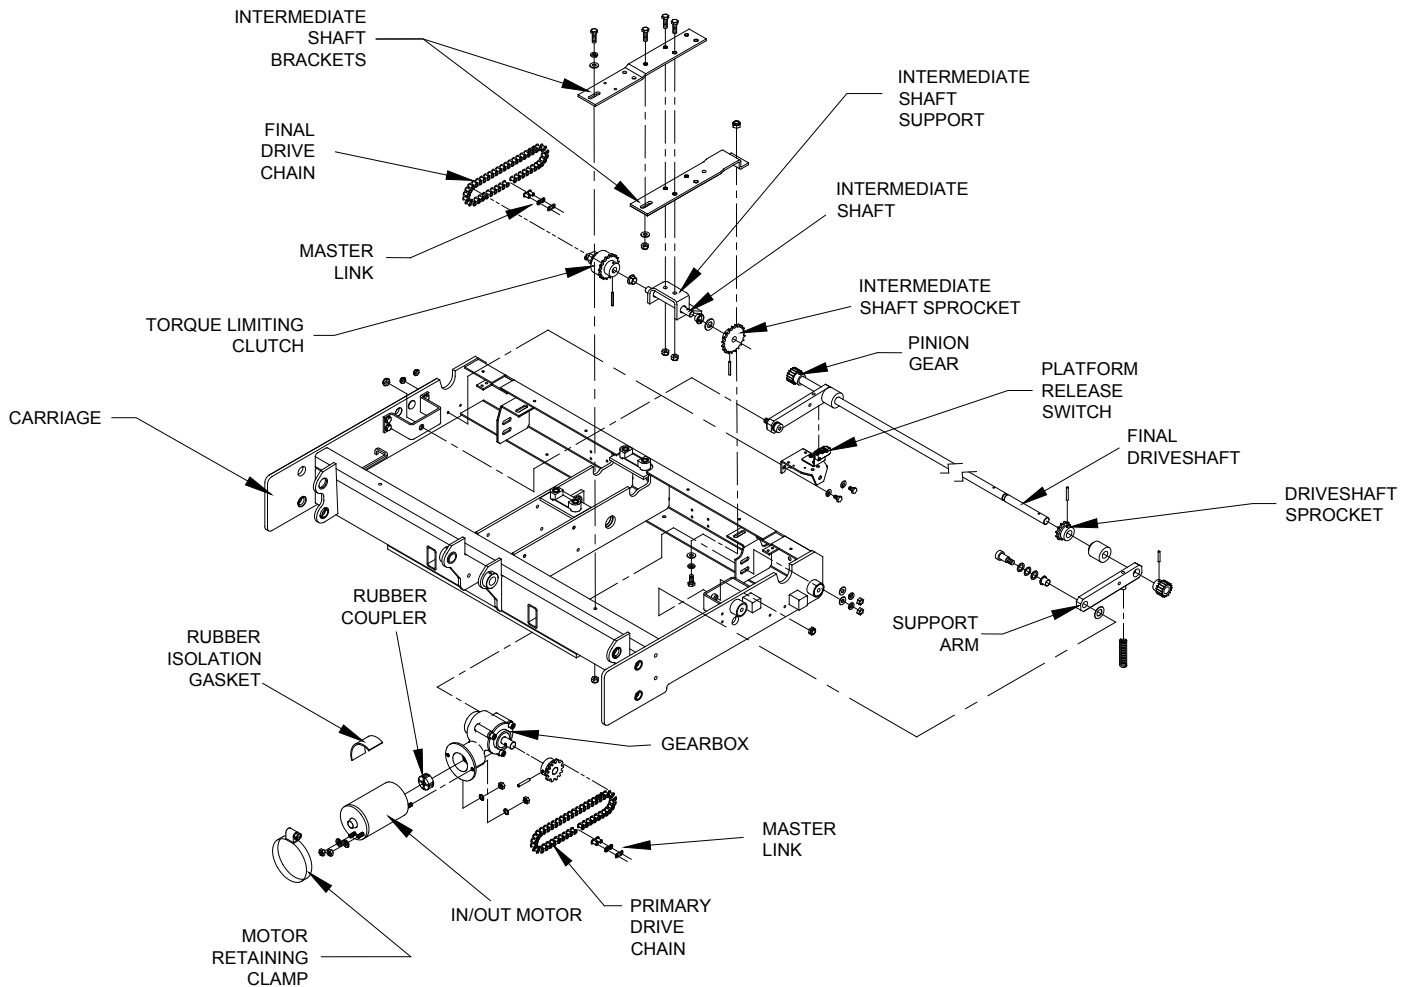

FIGURE 4-37: DEPLOYMENT SYSTEM COMPONENTS
Refer to **Figure 4-37**. The deployment system propels the traveling frame (carriage, lifting frame, and platform) out of enclosure, or pulls it back in. This section describes major deployment system components, including how they operate, how to remove and replace them, and how to perform adjustments.
- 6) Refer to **Figure 4-37**. Loosen two nuts fastening the gearbox to carriage.
- 1) Refer to **Figure 4-37**. Slide rubber coupler onto gearbox input shaft.
- 4) Refer to **Figure 4-37**. Position master link at bottom-center of its travel by moving carriage assembly forward or backward (use the DEPLOY and STOW functions).
- 13) Refer to **Figure 4-37**. Position master link at bottom-center of its travel by moving carriage assembly forward or backward (use the DEPLOY and STOW functions).
- 4) Refer to **Figure 4-37**. Loosen motor retaining clamp that fastens the gearmotor to gearmotor support.
- 3) Refer to **Figure 4-37**. Loosen the two nuts fastening gearmotor assembly to carriage.
- 12) Refer to **Figure 4-37**. Loosen motor retaining clamp.